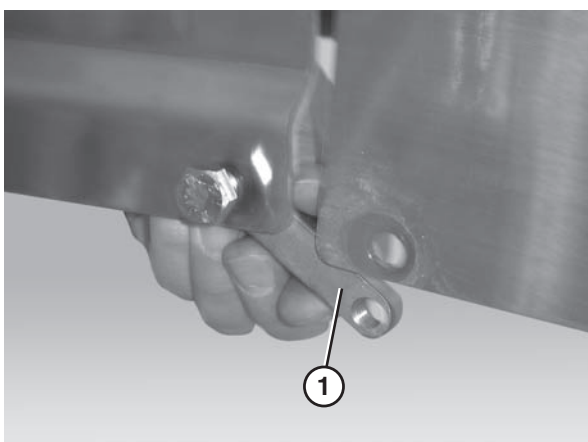

Figure 8
- Attach the flat connectors (**Figure 8, item 1**), if applicable, to the inside of the frame sections.